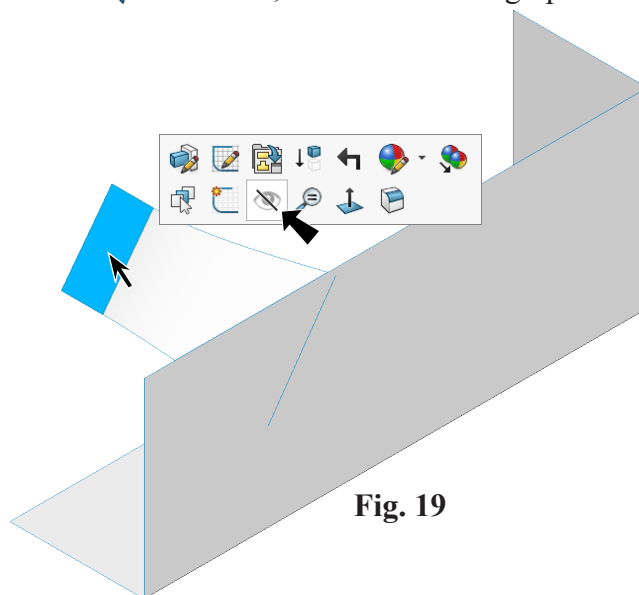

Fig. 19
Step 5. **Hide Surface-Extrude2** . To hide, click **Surface** in graphics area and **Hide**  on the context toolbar, **Fig. 19**.